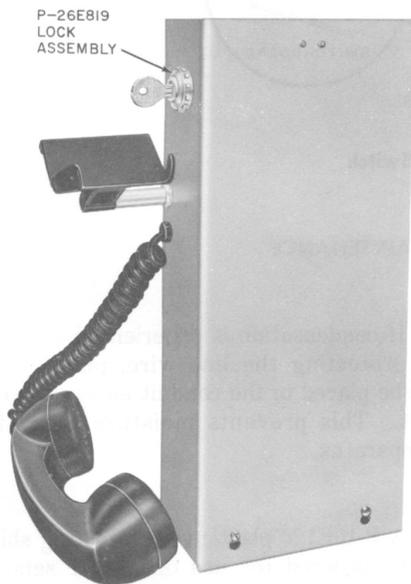
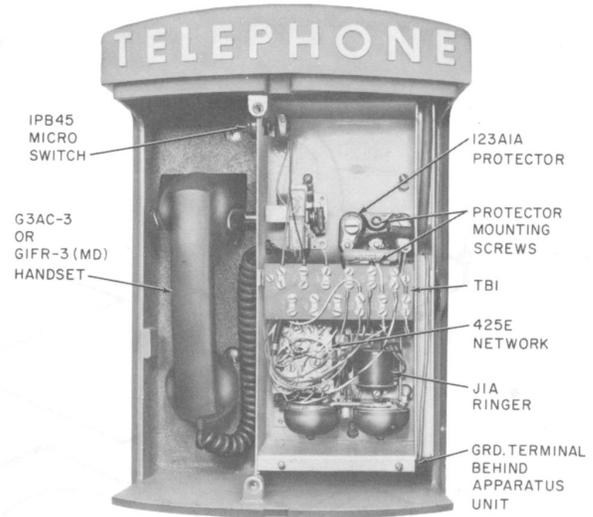
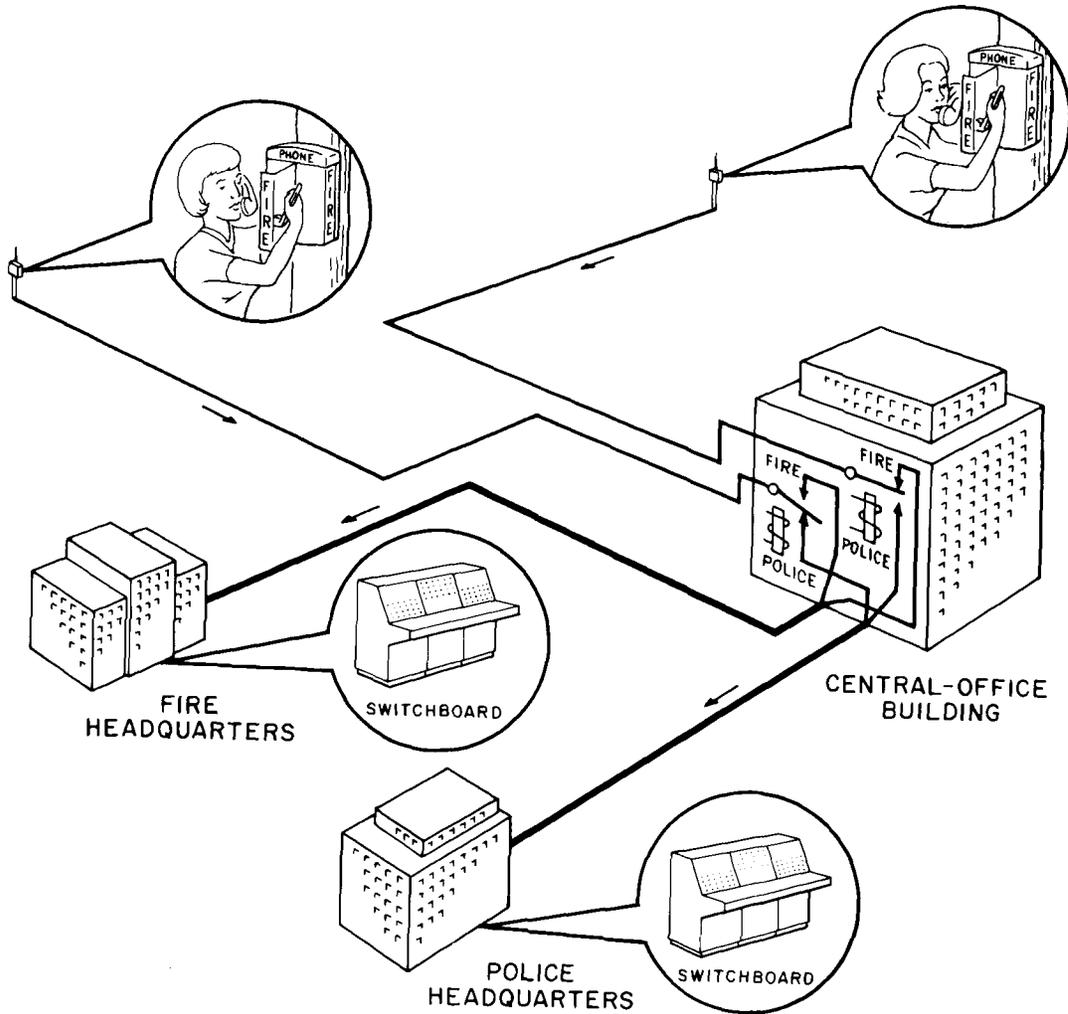

Fig. 5—P-26E819 Lock Assembly (Selective Routing Switch)
Fig. 6—570-Type Telephone Set, Interior View
Fig. 7—Selective Routing Switch
- Selective routing—570K, M, and P types (Fig. 5, 6, 7, and Table B)
2.08 *Selective Routing Switch:* Key (Fig. 5) or microswitch (Fig. 6) when operated and held until handset is removed from line switch, routes call to police headquarters (Fig. 7). Normal (unoperated) position routes call to fire headquarters.
3.05 Mount 123A1A protector on bracket provided in apparatus unit (Fig. 6) and reinstall apparatus unit in housing. (Where fused protection is required, mount protector separately.)